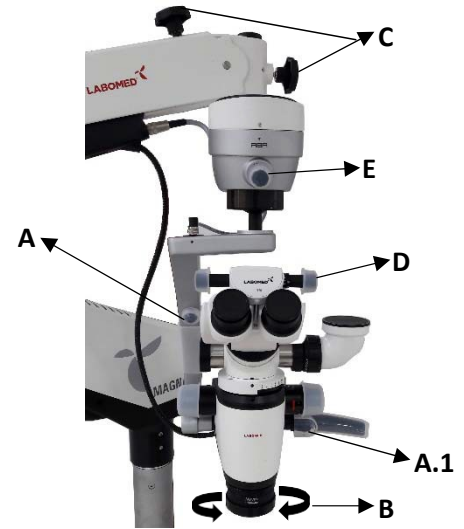

Fig. 19
- Optimize the Auto Balancing Arm (ABA) position by using clutch motions shown as **(A)** and **(A.1)** to get the proper field of vision as shown in Fig. 19.
- Desired working distance can be obtained by rotating the ring shown as **(B)** on the variable objective lens. Fine focusing can be done by the same ring as shown in Fig. 19.
- After focusing, lock swivel arm, suspension arm and ABA arm movements using lock knobs shown as **(C)** as shown in Fig. 19.
- Adjust the inter-pupillary distance (IPD) of the eyepieces using the IPD adjustment knob shown as **(D)** in Fig. 19.
- The illumination is controlled through the intensity control knob shown as **(E)**. Rotate it clockwise or anticlockwise to achieve the desired illumination level as shown in Fig. 19.
- Use the fine focusing by rotating the ring shown as **(B)** to achieve fine focus as shown in Fig. 19.
- Use the Clutch Buttons shown as **(A)** on carrier arm and **(A.1)** on handle to center the area of interest in the field of view as shown in Fig. 19.